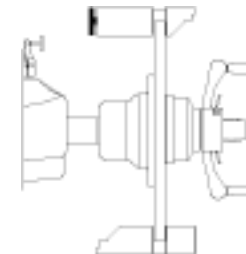

Figure 3-7
- Mount the calibration weight (100 gram) on the left side of the calibration rotor. Perform a measuring run. (Figure 3-7)